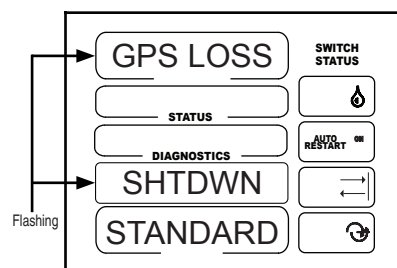

Figure 51-1
1. GPS LOSS SHTDWN should be flashing. See figure 51-1.